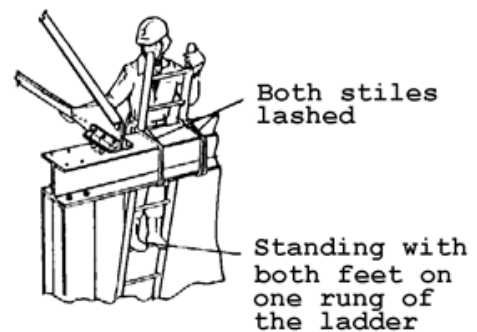

FIG 30.
- Ask the assistant to steady the ladder, then mount the ladder one rung at a time by grasping on the stiles. (Fig 30)
- Stand with both feet on one rung and lash both stiles. (Fig 30)